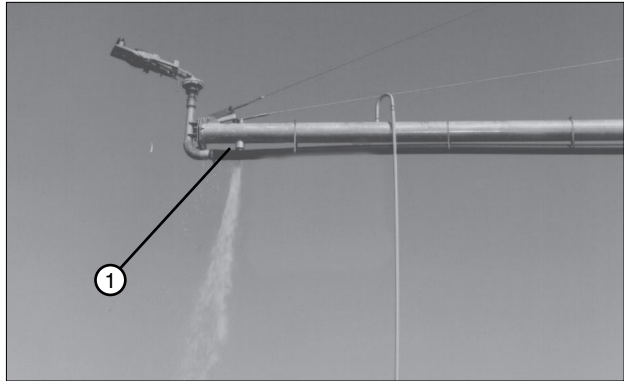

Figure 40-1 1. Overhang Drain
4. Remove plugs from the overhang drain. See Figure 40-1.